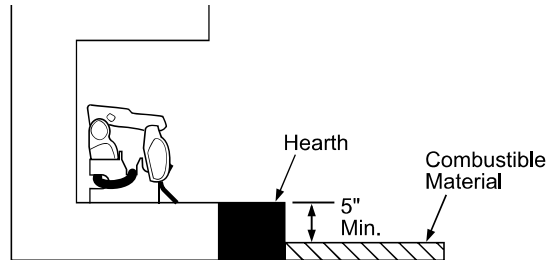

Figure 9 - Minimum Fireplace Clearances Above Combustible Flooring
- B. If combustible materials are less than 14" to the fireplace, you must install appliance at least 5" above the top surface of combustible flooring including tile and carpet (see *Figure 9*).